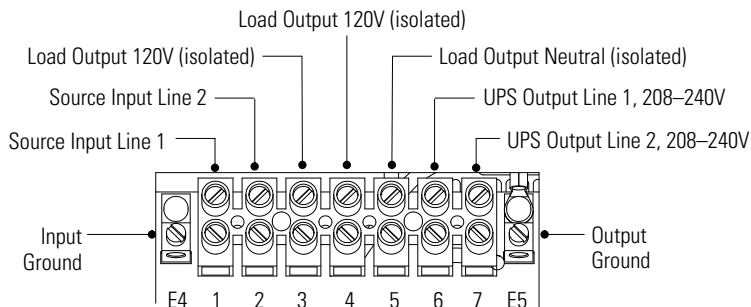

Figure 10. EPPDMG6000-3U-HW Model Terminal Block
- For the EPPDMG6000-3U-HW model, see Figure 10 and Table 2.